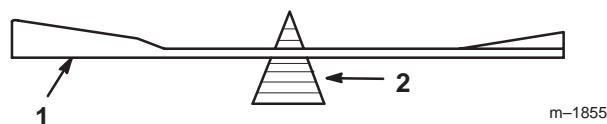
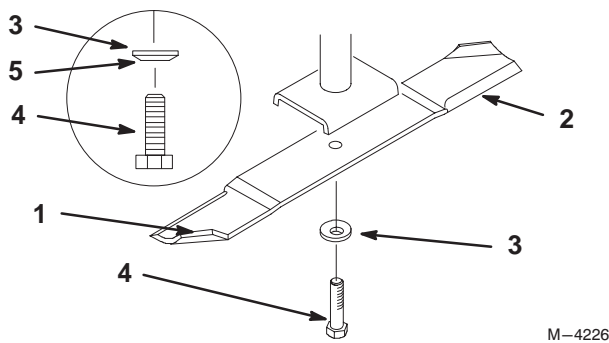

Figure 23
Figure 24
1. Hold the blade end using a rag or thickly-padded glove. Remove the blade bolt, spring disk and blade from the spindle shaft (Fig. 24).
2. Check the balance of the blade by putting it on a blade balancer (Fig. 23). If the blade stays in a horizontal position, the blade is balanced and can be used. If the blade is not balanced, file some metal off the end of the sail area only (Fig. 24). Repeat this procedure until the blade is balanced.
1. Install the blade onto the spindle shaft (Fig. 24).
2. Install the spring disk and blade bolt. The spring disk cone must be installed toward the bolt head. (Fig. 24). **Torque the blade bolt to 85–110 ft-lb (115–150 N•m).**